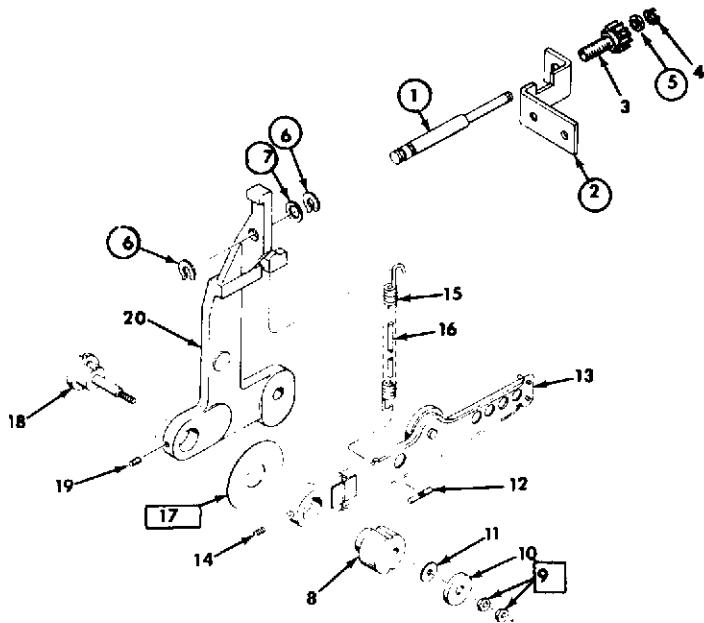

Figure 3-14. CLAW ARM COMPLETE
**2. Claw Arm Complete (Fig.3-14)**
- a. Lubricate periphery of rod (1) and bearing surfaces of washers (5 and 7), ring (6), bracket (2) and spring loop groove of item (12) with DC-44 grease.
- b. Lubricate interfaces between claw arm assembly (13) and washer (17) with FS-1290 grease.
- c. Adjust nuts (9) to obtain minimum endplay of .001 to permit claw arm to pivot freely with framing arm before spring (15) is assembled.
- d. Apply Glyptal 7526 to nuts (9) and washer (10).